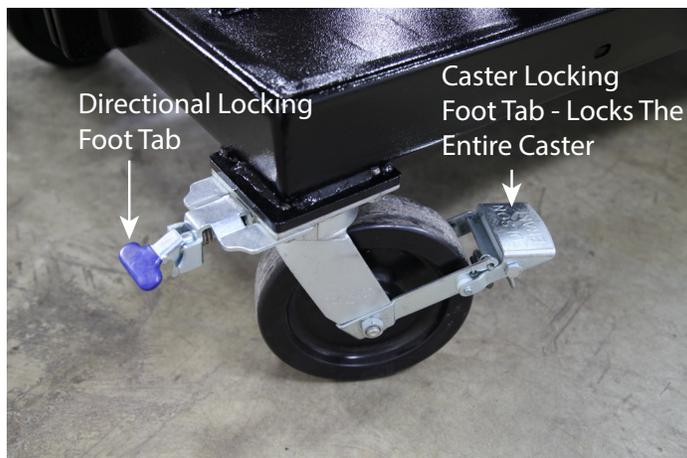

Fig. 5
6.) Attach 1/4NPT male 90° swivel fitting to rear of pump. Attach 3/8NPT male to 37° JIC female adapter fitting to front of power unit (under foot pedal). Attach 37° JIC male to 3/8NPT male 90° fitting to adapter fitting just installed. Attach lift table, pre -installed and coiled in table, to 90° fitting just installed. **IMPORTANT:** always use pipe tape/dope on all pipe fittings. Fig. 5.
6.) When moving the lift table, with or without a load, the casters may be locked directionally by pressing the blue foot tab downward on the caster. For ease of forward/aft movement only lock one front caster rotationally. Additionally, the lift table may be locked into position by pressing the caster locking foot tab downward. Fig. 5